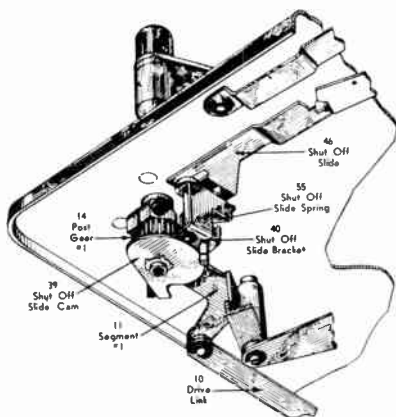

Figure SE21.
7. Selector Arms: Setting of Selector Arms, Gears, and Segments: (a) set the drive gear in neutral position. Place a 10" record on the selector arms, with all arms turned to approximately a normal playing position, and with the edge of the record approximately $3/16$ " from the ends of the post link shoes; (b) with the mechanism set, as described above, the stud on the drive link must be in the extreme outer position on the drive gear cam. Post gears #1 and #2 must be meshed so that there are 4 teeth disengaged between the matching segment and the split in the post gear. The relationship of the three segments is fixed by the dimensions of the segment link and the drive link. Should it be necessary to remove the segments from mesh with the post gears, it is suggested that the gear and segment be marked across the gear teeth before removal. This will definitely locate the gear mesh upon re-assembly. (See figure SE21)